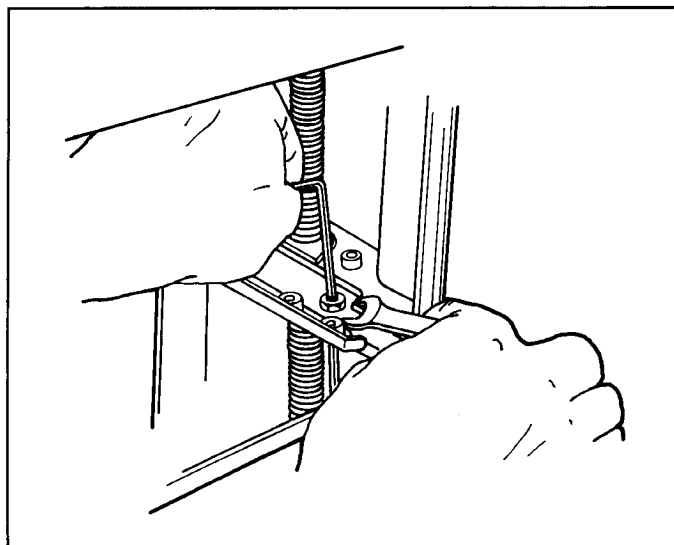

Figure 5
1. Loosen the securing nut on each side of the planer base with the open-end wrench supplied (Figure 5).